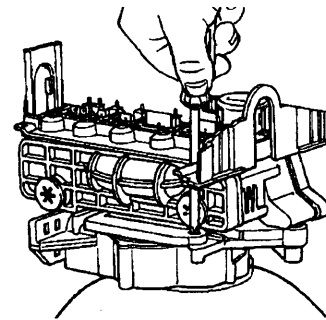

Figure 19
9. To remove the valve, remove the locking bar screw, Figure 19.